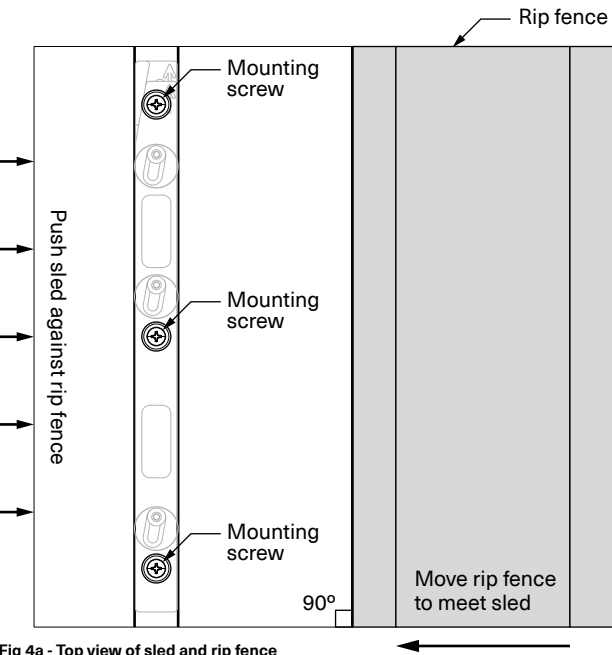

Fig 4a - Top view of sled and rip fence
- 4.1 Move the rip fence so it touches the side of your sled base and lock the fence in place. The fence position should be close to or slightly past the saw blade [Fig 4a].